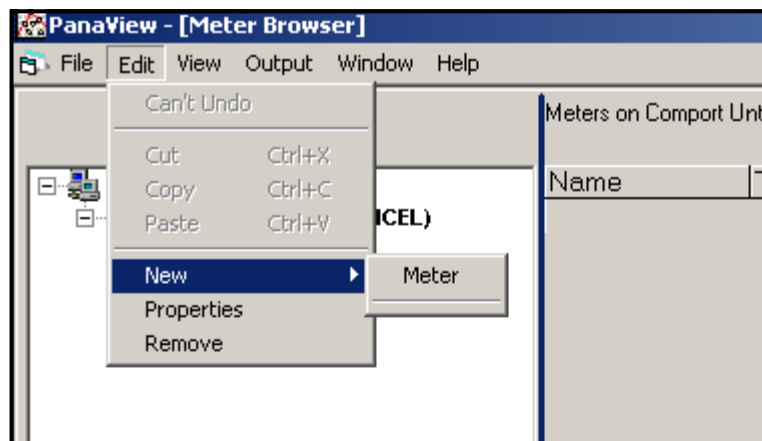

Figure 35: New Option in the Edit Menu
2. Click on the *New* option in the *Edit* menu (see *Figure 35* below).